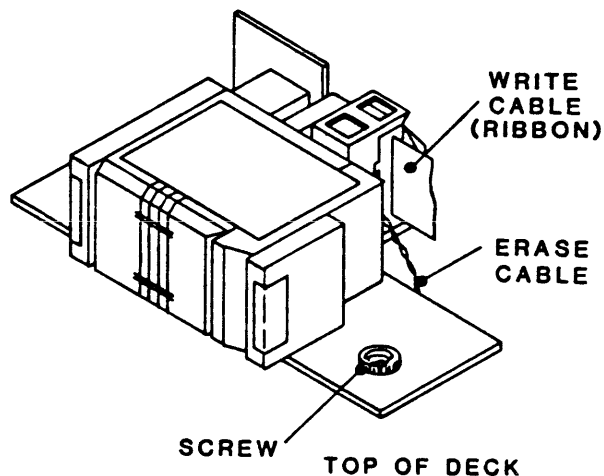

Figure 4-25 Magnetic Head Assembly
4.3.30 MAGNETIC HEAD ASSEMBLY (Figure 4-25)